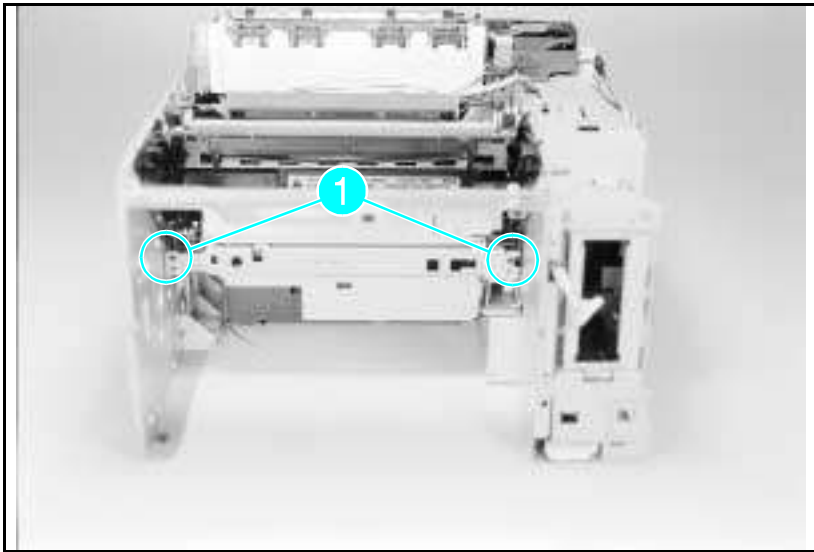

Figure 6-54 Cross Member Screws
- 4 From the front of the printer, remove the (2) black self-tapping screws that hold the Inner Cross-member. Remove the cross-member (see Figure 6-54 callout 1).